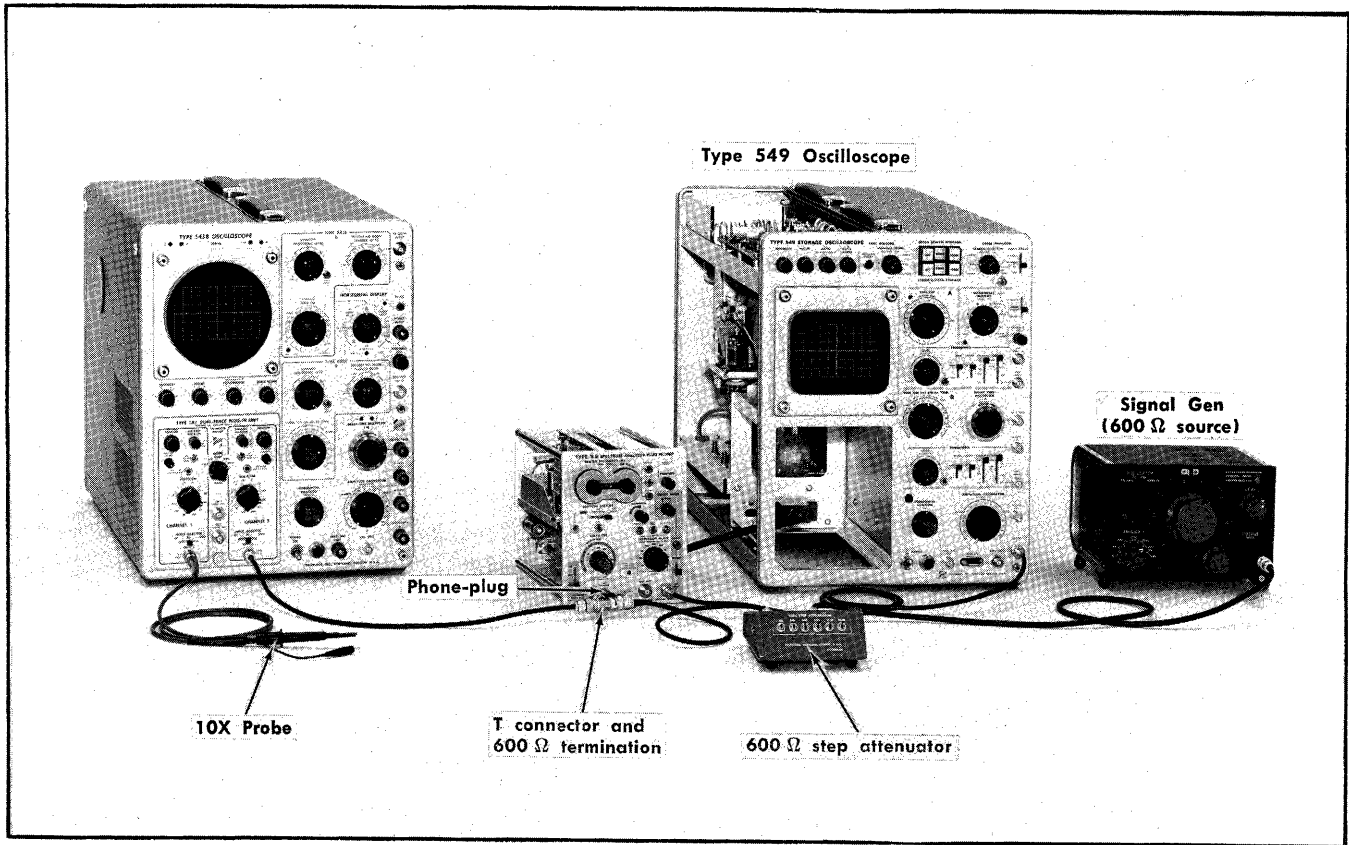

Fig. 6-11. Equipment setup to check dynamic range, adjust linear (RMS) calibration and check the recorder output signal.
a. Equipment setup shown in Fig. 6-11.